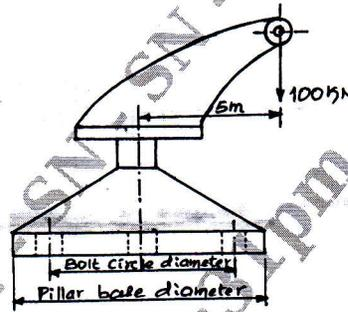

Fig.Q9(a)
- 9 a. The base of a Pillar crane is fastened to the foundation by 8 bolts spaced equally on bolt circle diameter 1.6m. The diameter of the pillar base is 2m. Determine the size of bolt when crane carries a load of 100 kN at a distance of 5m from the centre of the base as shown in Fig.Q9(a). The allowable stress for the bolt material is 100 MPa.